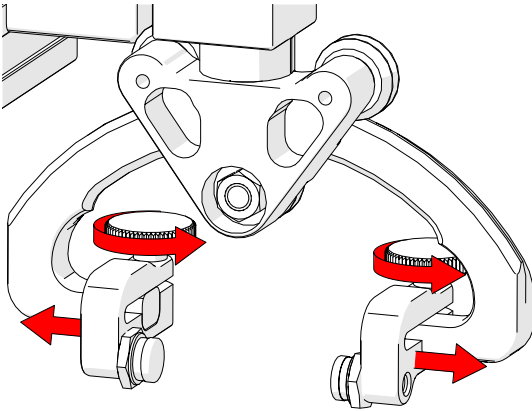

Fig. 50 - Loosen knobs and move arms
4. Loosen the two probe holder arm adjustment knobs and move the arms apart to create space for the probe (Fig. 50).